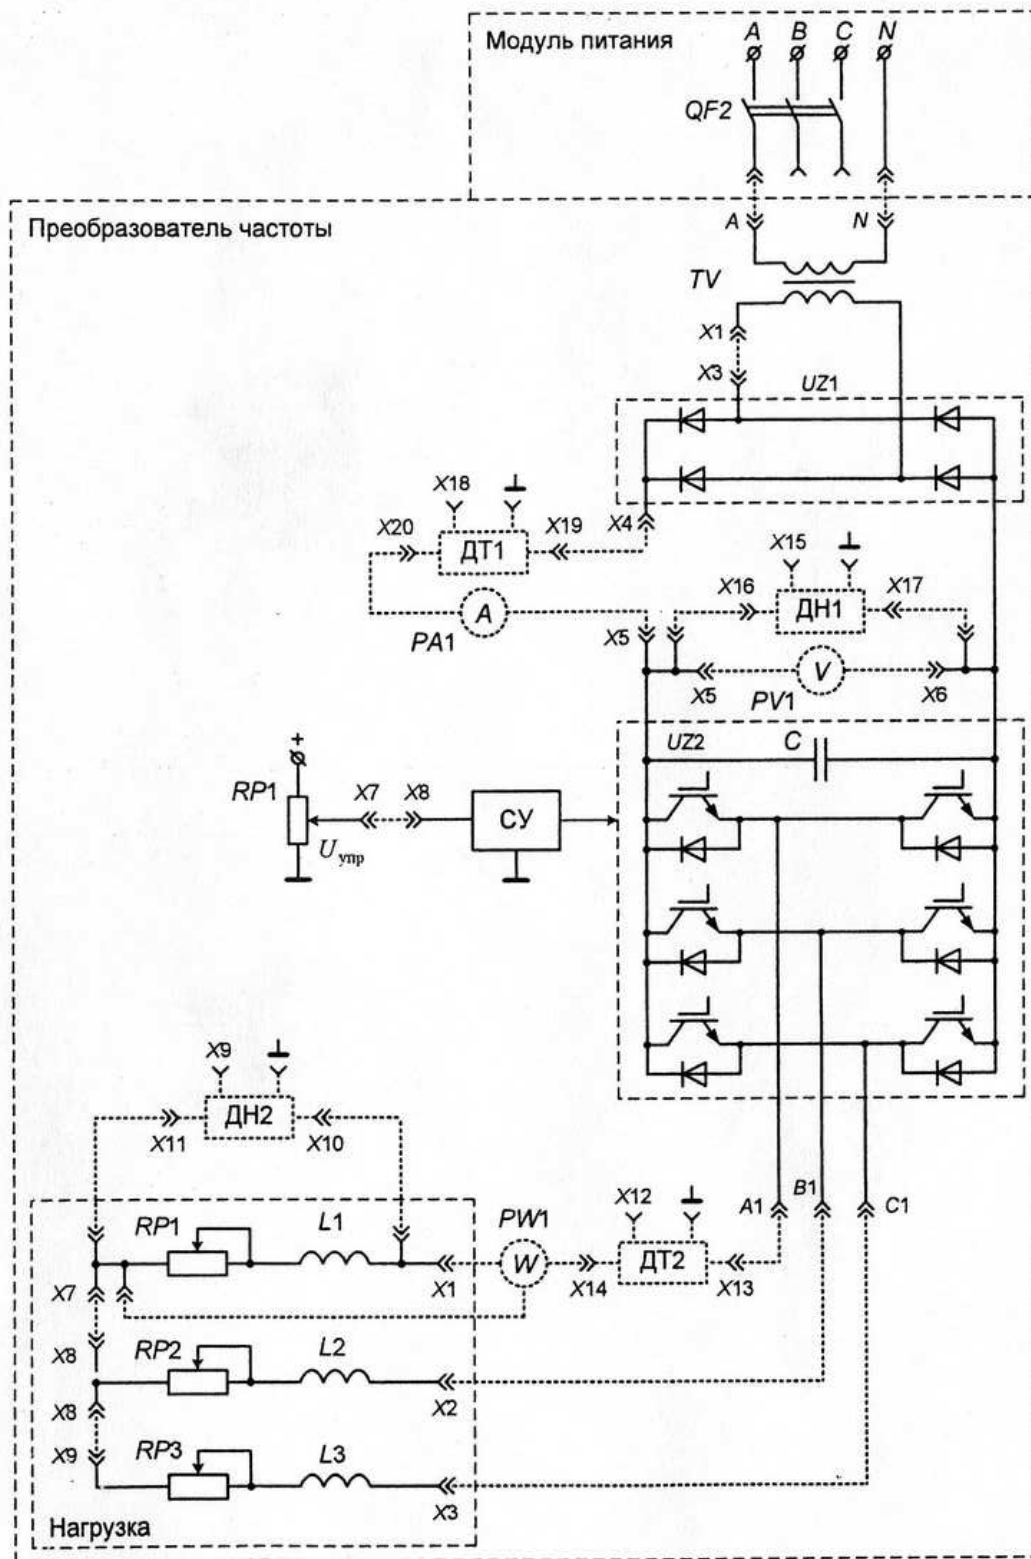

Рис. 3: Schematic diagram for studying an autonomous voltage inverter when operating on an active-inductive load
- (a) assemble a circuit for studying a three-phase AIN when operating on an active-inductive load in accordance with Fig. 3. Additional jumpers and measuring instruments connected to the circuit are shown with a dashed line.
In table 2 shows measuring instruments, and table 3 current and voltage sensors used in laboratory work, in accordance with the accepted designations on the circuit diagram (see Fig. 3).